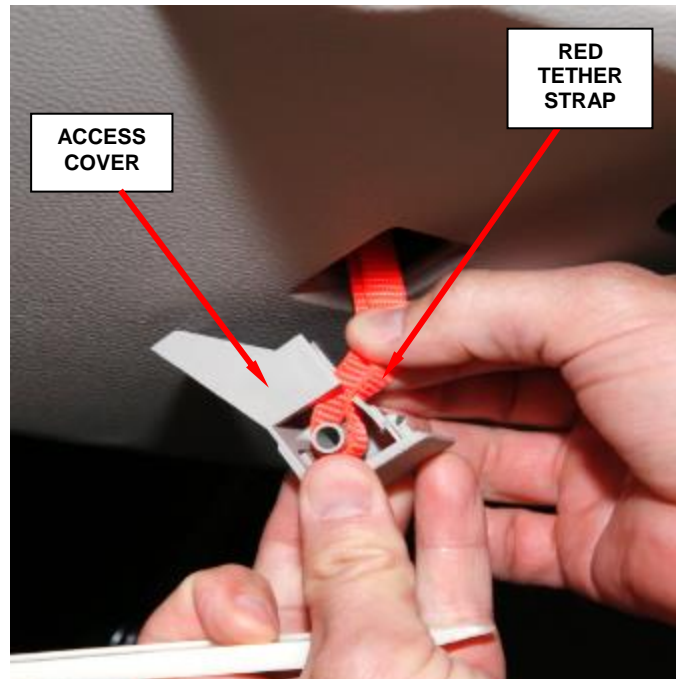

Figure 3 – Red Tether Strap Removal
4. Remove the red tether strap from the original Manual Park Release access cover (plug) (Figure 3).
5. Remove and **DISCARD** the original Manual Park Release access cover (plug) (Figure 3).